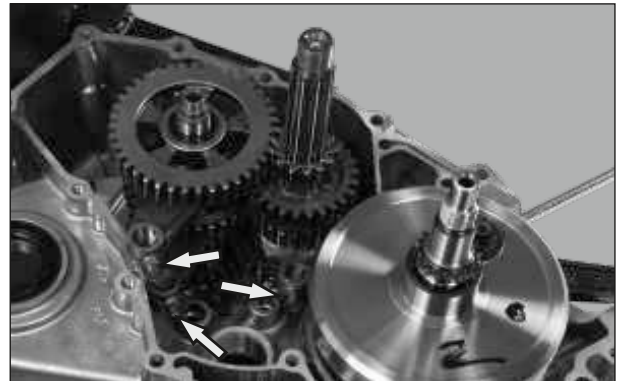

Fig. 3.84
**Note:** The fork gearshift high speed along with spacer roller gearshift fork pin should assemble to the gear 2nd drive. (Fig. 3.84)
The fork gearshift low speed with spacer roller gearshift fork pin should assemble to the gear 3rd driven. (Fig. 3.84)
The fork gearshift low speed reverse gear without spacer roller gear shift fork pin should assemble to the gear 4th driven. (Fig. 3.84)
- Take out the gear 1st drive from counter shaft complete. (Fig. 3.84)